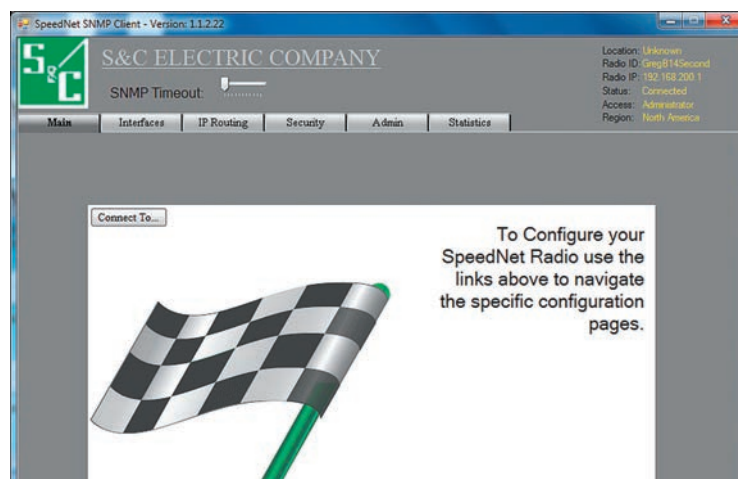

Figure 4. Main screen for SpeedNet configuration.
STEP 13. The **Main** screen will open, as shown in Figure 4. Click on the **Interfaces** tab.
STEP 18. The *Main* screen will open, as shown in Figure 4 on page 8. Click on the **Interfaces** tab.